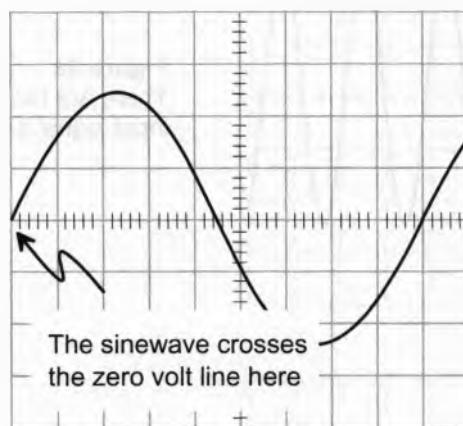

Figure 9
4. Adjust the *Horizontal Position* control to align the point at which signal crosses the zero voltage line to the first vertical line on the graticule (see Figure 9).